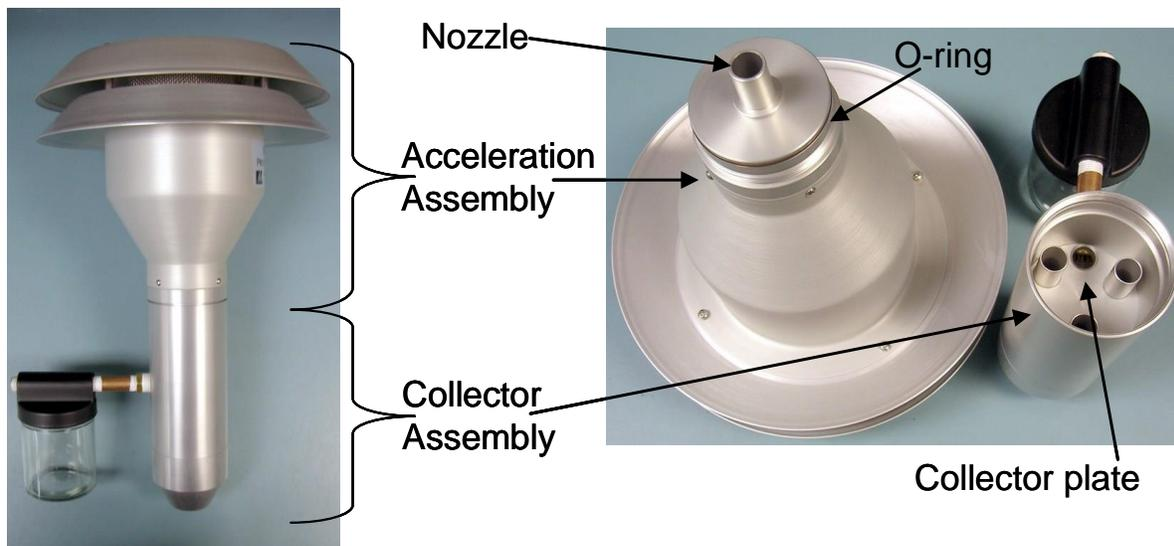

Figure 6-4: Diagram of PM10 head inlet components (Vaughn, 2009)
2. Unscrew the collector assembly from the acceleration assembly (Figure 6-4), being careful to avoid damage to the acceleration assembly O-ring.